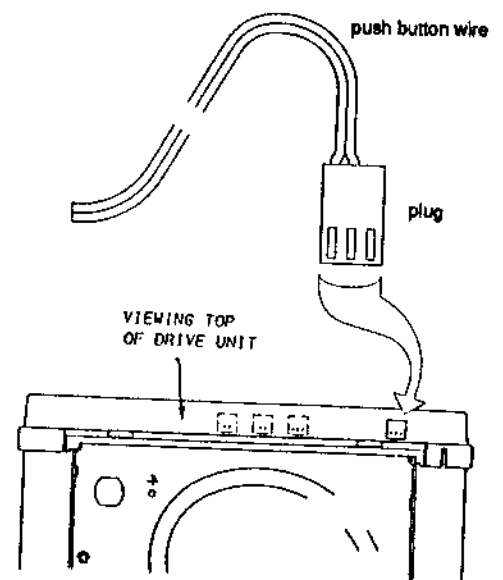

Figure 14
- Connect the plug to the powerhead (Figure 14).